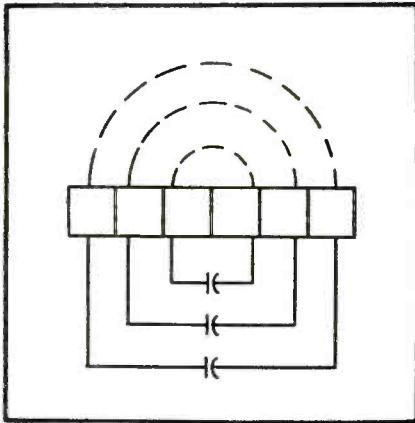

Figure 1
The analysis of an isolated resistance element was first considered by Howe¹ and later refined and verified by Hartshorn². In these instances, the self capacitance of the resistor was calculated, considering it as an isolated rod. The rod was divided into sections as shown in Figure 1, and under the assumption of linear charge distribution, the potential distribution was computed. The capacitance of each section was then obtained as the quotient of the charge and the potential difference. An average value of this capacitance was thus obtained and the resistor then considered as a short-circuited trans-
The question of determining this value of capacitance may be solved in two ways. If a calculation of the self capacitance of an isolated rod is made using Howe's methods, and if from this calculation the equivalent parallel R' and C' are computed for various frequencies using equations (3) and (4), it will be found that C' is constant for frequencies below four megacycles. It will also be found that for several resistors this constant value of C' is approximately equal to $C/3$ where C is the total distributed capacitance of the isolated rod, computed by the Fig. 1 method. This may be verified in a straightforward manner by using a series expansion for the input impedance of the line shown in Figure 2, as follows: